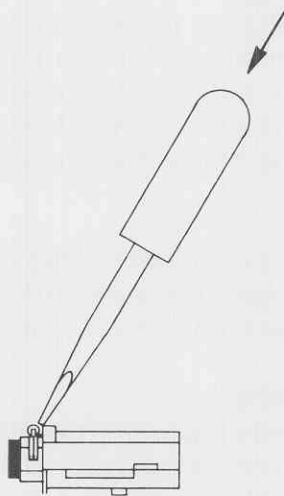

Fig. No. 2
3. Remove the two (2) wires from the brush holders by tapping with a screwdriver. (See figure No. 2)
4. Remove the two (2) screws and bracket holding the brush assembly in place (both sides) and remove brush assemblies.